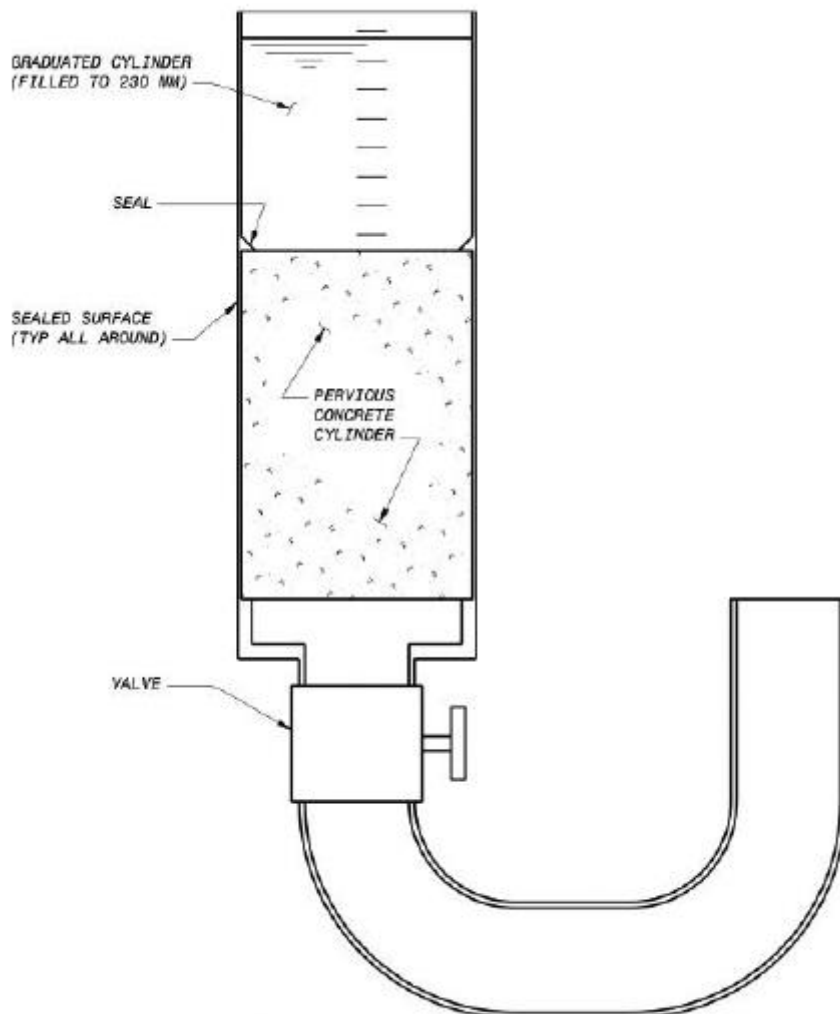

FIGURE 1 - PERMEABILITY TEST SETUP
- Each entry will be tested for permeability using a falling-head permeameter test setup (see Fig. 1). With the valve closed, water shall be poured into the graduated cylinder above the cylinder until the water level remains steady at 230 mm above the cylinder and air pockets are minimized.